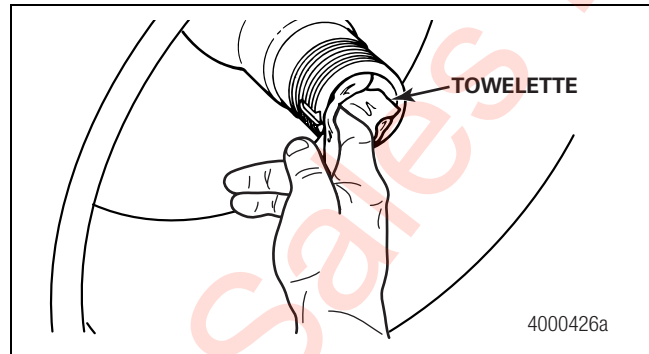

Figure 2.18
13. Use the same towelette to clean one spindle bore of contaminants such as grinding dust, dirt and wheel-end lubricant. Protect the cleaned bore from additional contaminants. Figure 2.18.